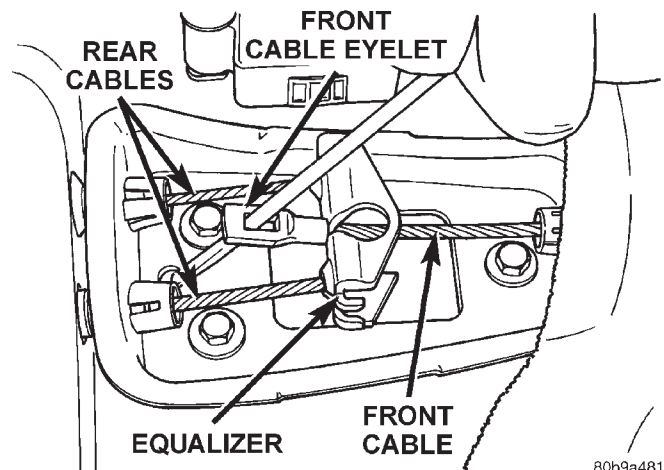

Fig. 52 Front Cable Eyelet
- (1) Remove center console, refer to Group 23 Body.
- (2) Lift up rear seat and carpet covering the parking brake cables.
- (3) Place a screw driver through the front cable eyelet (Fig. 52) and pry back on the front cable.